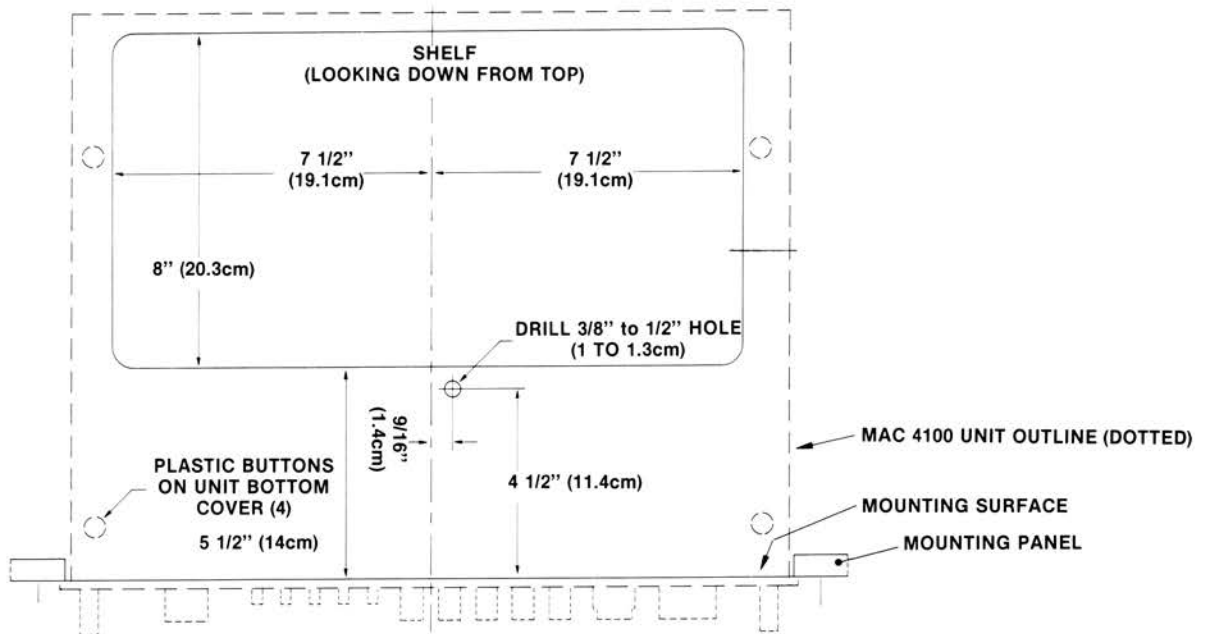
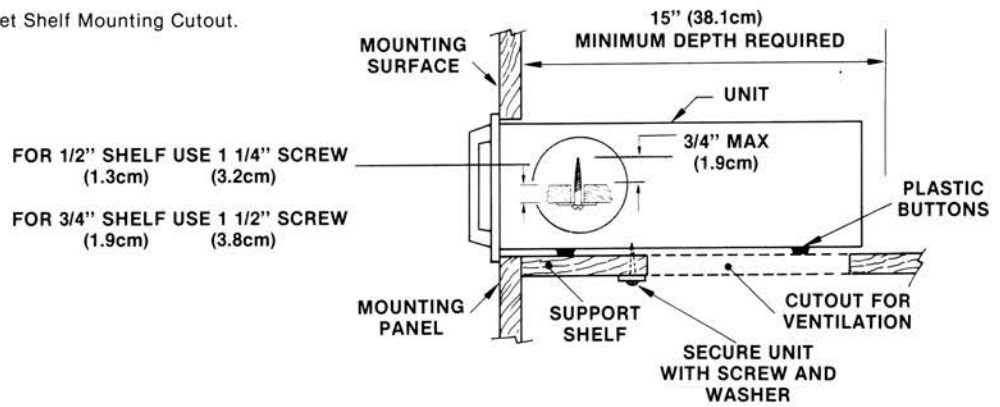

Fig. 2 Custom Cabinet Shelf Mounting Cutout.
Fig. 3 MAC 4100 Custom Mounting Profile
cut out 15" [38.1cm] x 8" [20.32cm]. [see Fig. 2]. In addition, a single 3/8" to 1/2" [1 cm to 1.3 cm] screw hole [see Fig. 2 and Fig. 3] must be drilled in the shelf to secure the receiver after installation. The top of the shelf must be attached flush with the bottom of the custom panel cutout.
5. On the bottom of the receiver are the 4 plastic feet held on by screws "D" [see Fig. 4]. Remove these feet. Do not attempt to remove the 4 plastic button glides as these rest against the shelf. (see Fig. 2 and 3). At this point the receiver is ready to be custom installed.
From the front of the cabinet, thread the power cord through the opening in the cabinet panel and slide the MAC 4100 in on the shelf. Adjust the position to evenly cover the custom panel cutout. Lock the unit in place with a screw and washer inserted through the drilled hole in the mounting shelf [see Fig. 3]. Use a 1-1/4" [3.2 cm] screw for 1/2" [1.3 cm] shelf or a 1-1/2" [3.8 cm] screw for 3/4 [1.9 cm] shelf. Do not use longer screws.